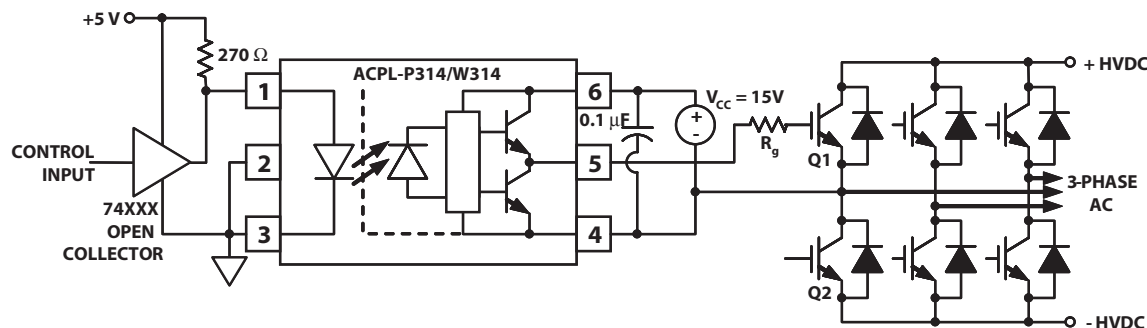
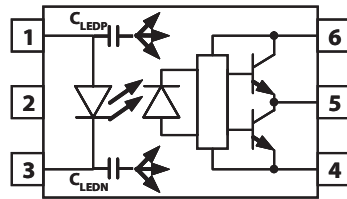
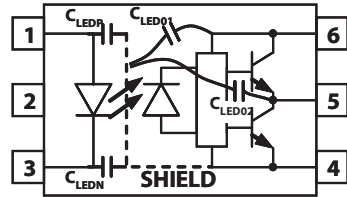
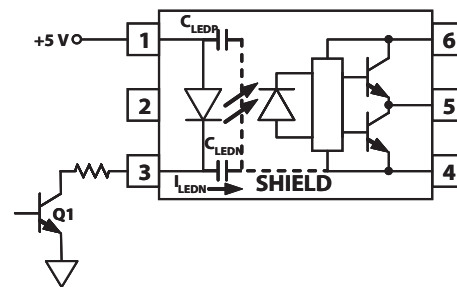

Figure 19. Recommended LED Drive and Application Circuit for ACPL-P314/W314
Figure 21. Optocoupler Input to Output Capacitance Model for Unshielded Optocouplers.
Figure 22. Optocoupler Input to Output Capacitance Model for Shielded Optocouplers.
Figure 24. Not Recommended Open Collector Drive Circuit.
To keep the IGBT firmly off, the ACPL-P314/W314 has a very low maximum V_{OL} specification of 1.0 V. Minimizing R_g and the lead inductance from the ACPL-P314/W314 to the IGBT gate and emitter (possibly by mounting the ACPL-P314/W314 on a small PC board directly above the IGBT) can eliminate the need for negative IGBT gate drive in many applications as shown in Figure 19. Care should be taken with such a PC board design to avoid routing the IGBT collector or emitter traces close to the ACPL-P314/W314 input as this can result in unwanted coupling of transient signals into the input of ACPL-P314/W314 and degrade performance. (If the IGBT drain must be routed near the ACPL-P314/W314 input, then the LED should be reverse biased when in the off state, to prevent the transient signals coupled from the IGBT drain from turning on the ACPL-P314/W314.
Step 1: Calculate R_g minimum from the I_{OL} peak specification. The IGBT and R_g in Figure 19 can be analyzed as a simple RC circuit with a voltage supplied by the ACPL-P314/W314.
where $K_{ICC} \cdot Q_g \cdot f$ is the increase in I_{CC} due to switching and K_{ICC} is a constant of 0.001 mA/(nC*kHz). For the circuit in Figure 19 with I_F (worst case) = 10 mA, $R_g = 32 \Omega$, Max Duty Cycle = 80%, $Q_g = 100$ nC, $f = 20$ kHz and $T_{AMAX} = 85^\circ\text{C}$:
Without a detector shield, the dominant cause of optocoupler CMR failure is capacitive coupling from the input side of the optocoupler, through the package, to the detector IC as shown in Figure 21. The ACPL-P314/W314 improves CMR performance by using a detector IC with an optically transparent Faraday shield, which diverts the capacitively coupled current away from the sensitive IC circuitry. However, this shield does not eliminate the capacitive coupling between the LED and optocoupler pins 5-8 as shown in Figure 22. This capacitive coupling causes perturbations in the LED current during common mode transients and becomes the major source of CMR failures for a shielded optocoupler. The main design objective of a high CMR LED drive circuit becomes keeping the LED in the proper state (on or off) during common mode transients. For example, the recommended application circuit (Figure 19), can achieve 10 kV/ μ s CMR while minimizing component complexity.
The open collector drive circuit, shown in Figure 24, can not keep the LED off during a $+dV_{CM}/dt$ transient, since all the current flowing through C_{LEDN} must be supplied by the LED, and it is not recommended for applications requiring ultra high CMR₁ performance. The alternative drive circuit which like the recommended application circuit (Figure 19), does achieve ultra high CMR performance by shunting the LED in the off state.